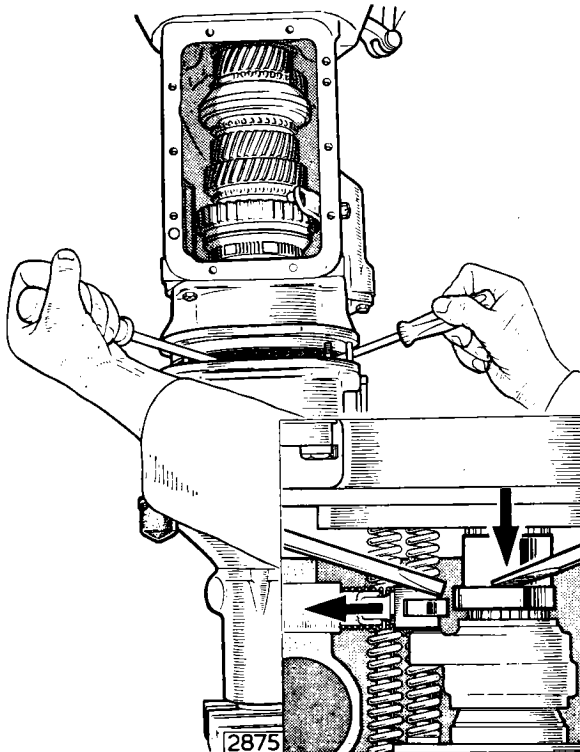

Fig. 34. When fitting the overdrive to the gearbox, compress the oil pump plunger and align the operating cam with the plunger roller.
7. Enter two screwdrivers into the gap between the overdrive casing and the gearbox rear extension, with one, compress the oil pump plunger, and with the other, lever the cam down into alignment with the plunger roller (Fig. 34).